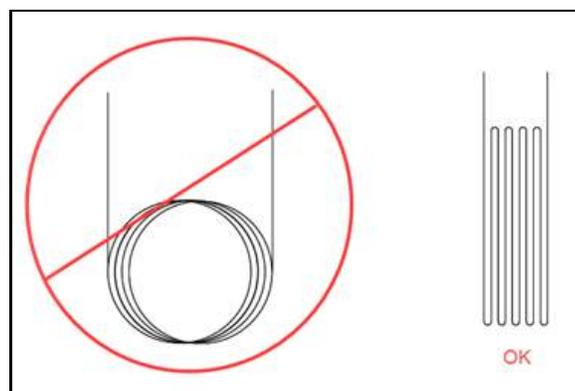

FIGURE 2-4. CABLE RECOMMENDATION
- Do not coil excess pressure transducer cable length into a loop. Coiling the cable will increase the effects of any radiated, conducted, or capacitive coupled interference. Pull the excess cable length back inside the metal DAAS console and secure it as shown in Figure 2-4.